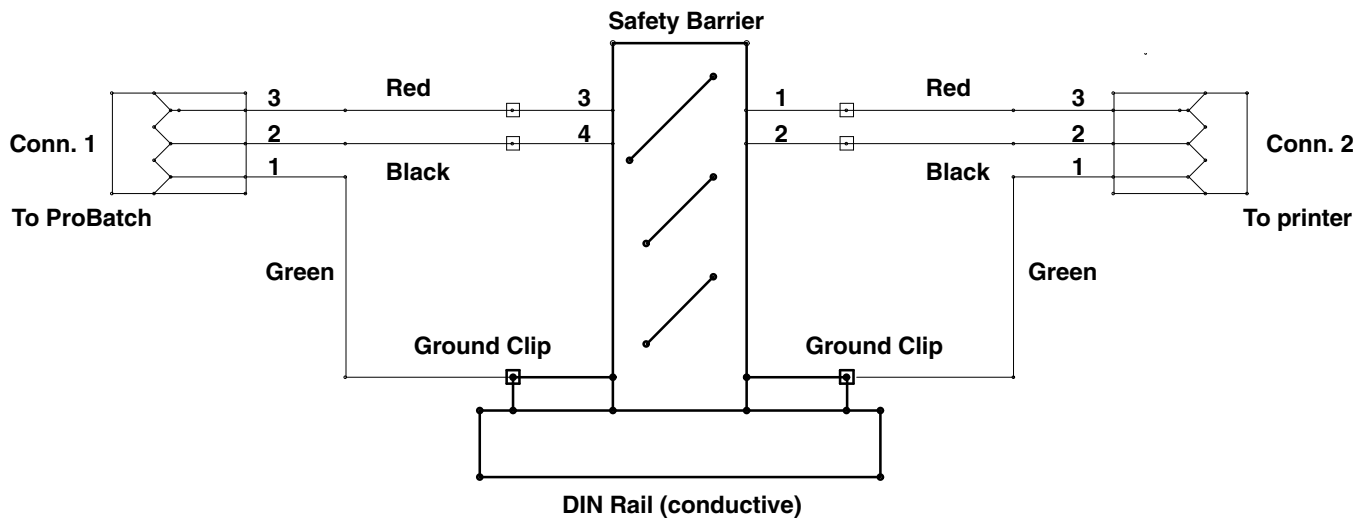

Fig. 2
(Refer to Fig. 2, page 2)
6. Connect a 5 ft. (1.52 m) cable (10) (from the printer kit) between the printer connector (A) and the printer barrier (30) connector (Figs. 2 and 4).